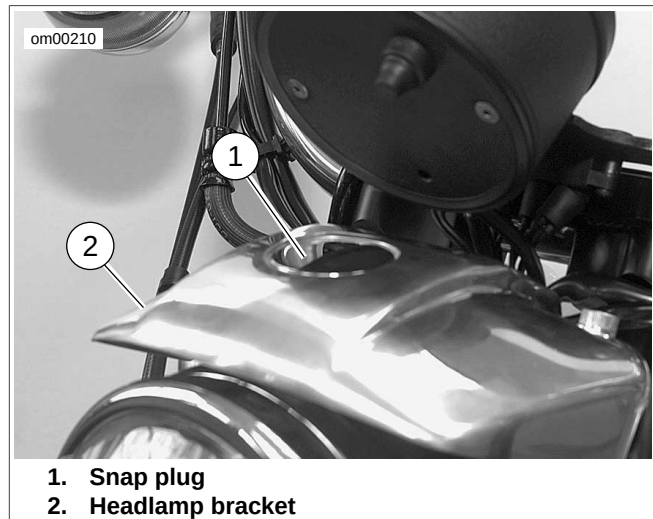

Figure 1-111. Headlamp Snap Plug: Sportster Models (XL Model Shown)
1. See Figure 1-111. Remove snap plug (1) on top of headlamp bracket (2).